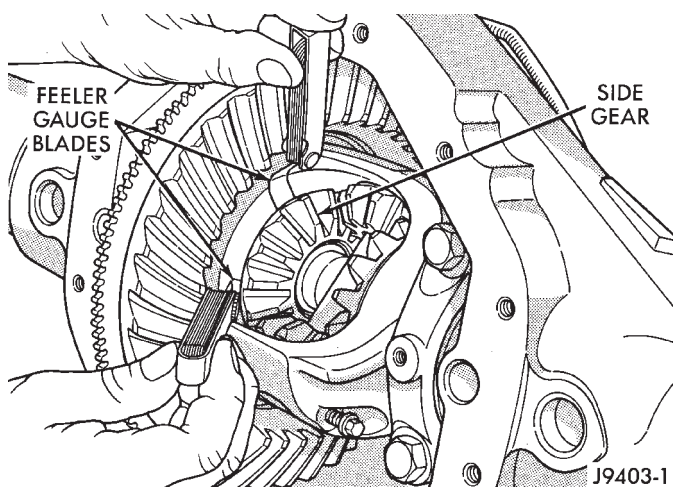

Fig. 61 Side Gear Clearance Measurement
(1) Install the axle shafts and C-clip locks and pinion mate shaft.
(2) Measure each side gear clearance. Insert a matched pair of feeler gauge blades between the gear and differential housing on opposite sides of the hub (Fig. 61).